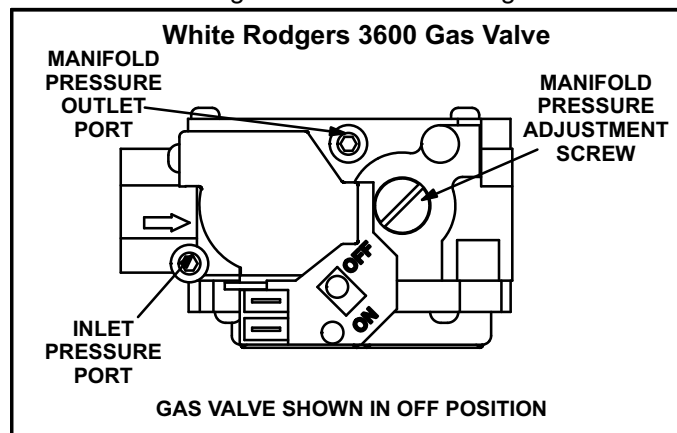

FIGURE 2
Operating the Gas Valve (Figure 2)
- 6 - Move lever on gas valve to **OFF**. See figure 2.
- 8 - Move lever on gas valve to **ON**. See figure 2.